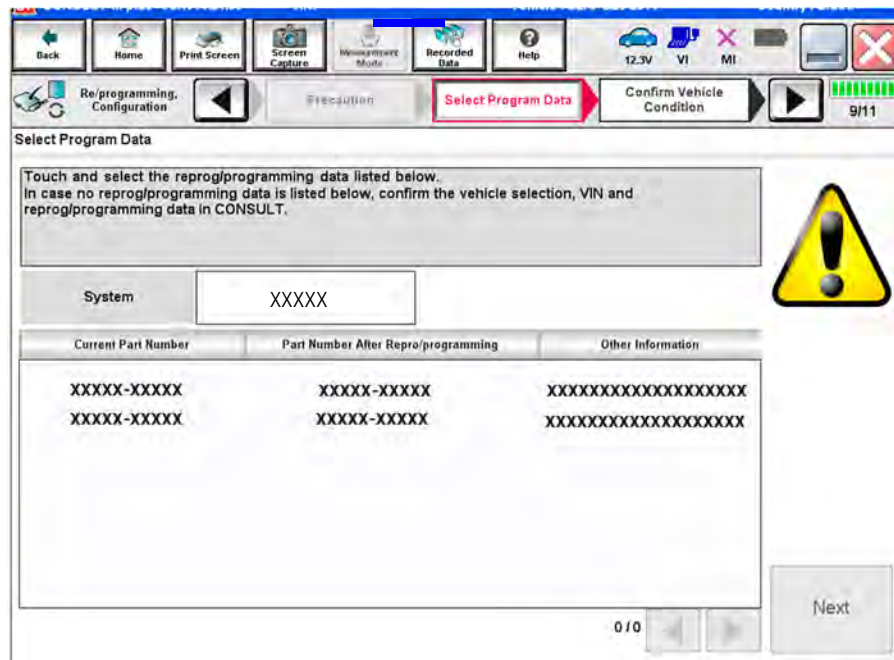

Figure 11
- If more than one new P/N is available, the screen in Figure 11 will display.